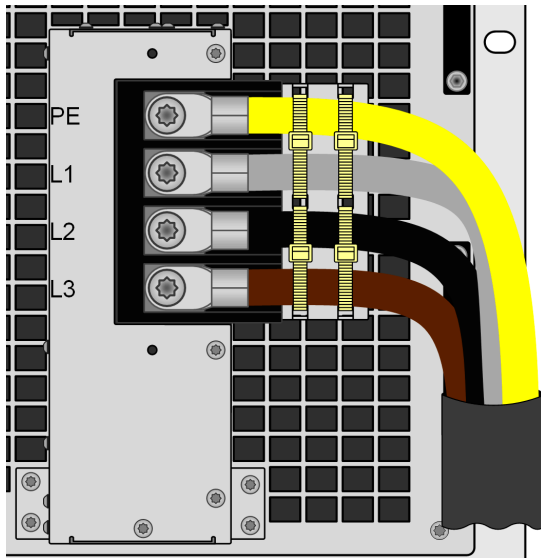

Figure 11 - Fully installed strain relief
1. Arrange the wires that go to the AC terminal horizontally and in front of the pre-mounted bracket, as depicted in *Figure 11* below.